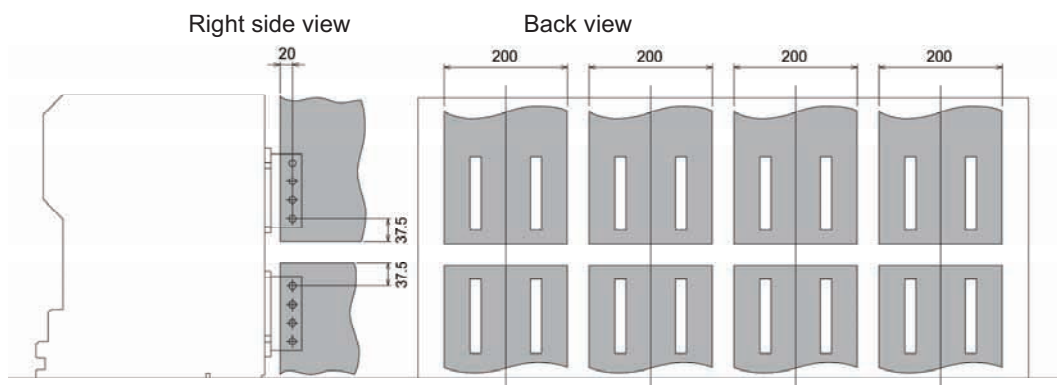

Fig. 5 Conductor (include screw) connection area
- Connect conductors to the main circuit terminals in the conductor connection area as shown in Fig. 5.